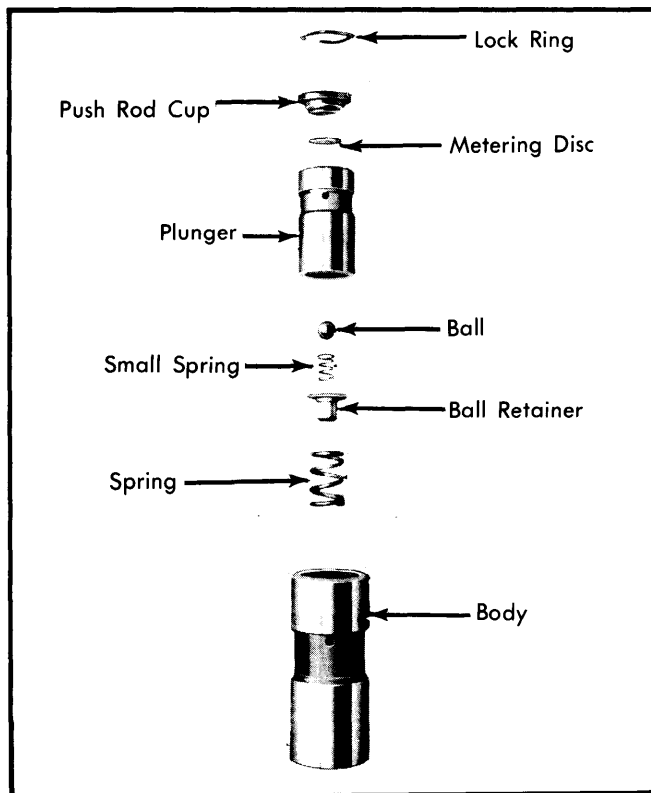

Fig. 3 Hydraulic Valve Lifter Exploded View
2) Invert lifter and slide out internal components. See Fig. 3.